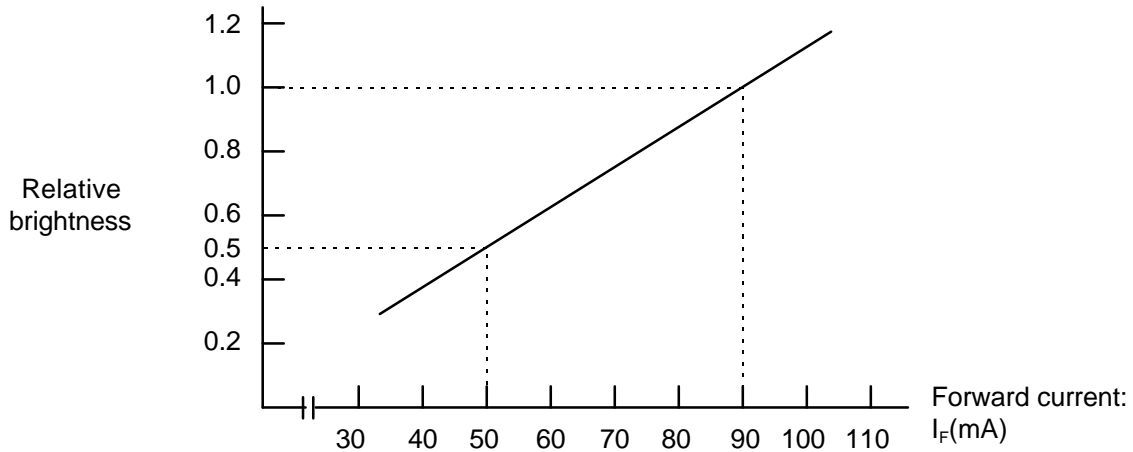

Figure 12 Forward Current-Brightness Characteristics ( $T_a=25^\circ\text{C}$ )
For this resistance value, the forward current becomes lower than 50 mA at 25°C. The surface brightness of the LED backlight varies with the forward current. See Figure 12. Compared with 1.8 (4) brightness ( $I_F=90$  mA), the brightness is about 40%.